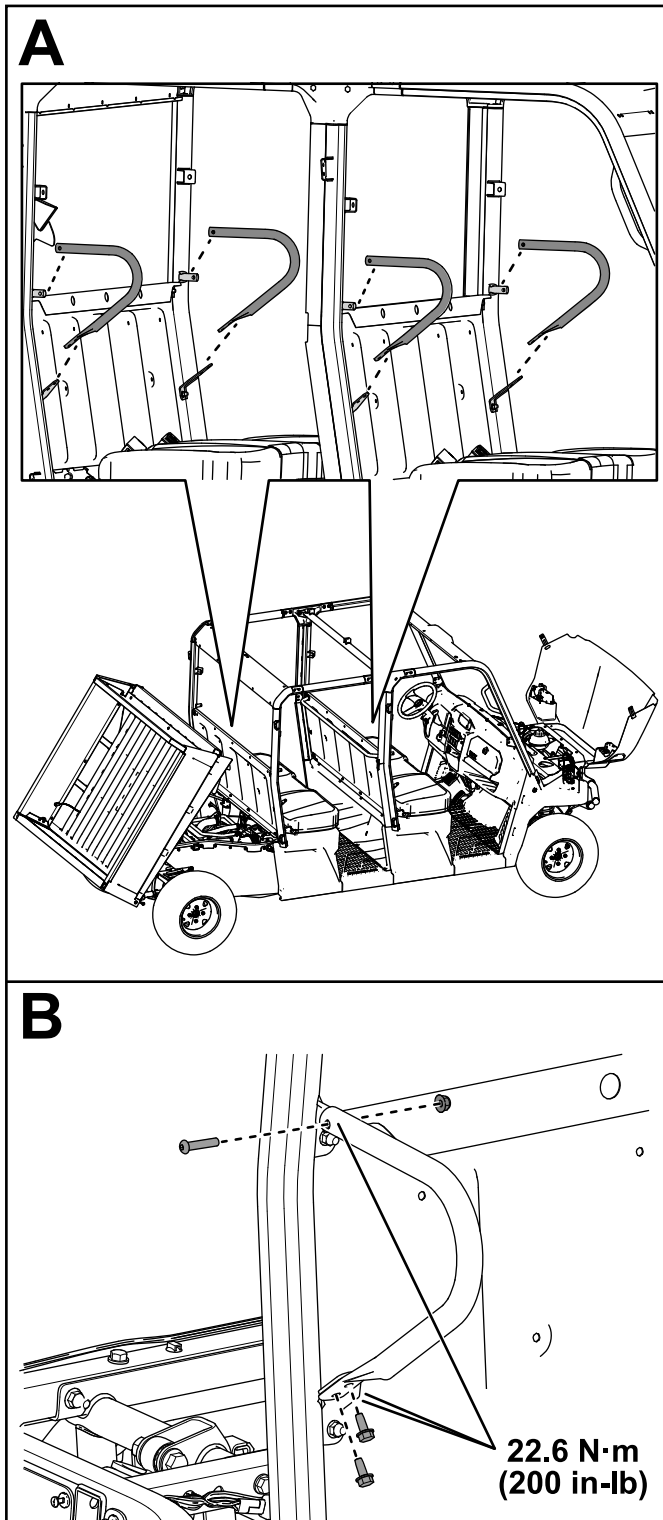

Figure 53
26. Secure the 4 shoulder restraints to the rear roll bar assemblies and middle roll bar assemblies using 8 self-tapping screws (5/16 x 3/4 inch), 4 button-head bolts (5/16 x 1-1/2 inches), and 4 locknuts (5/16 inch) as shown in Figure 53.
Torque the locknuts (5/16 inch) to 22.6 N·m (200 in-lb) as shown in Figure 53.